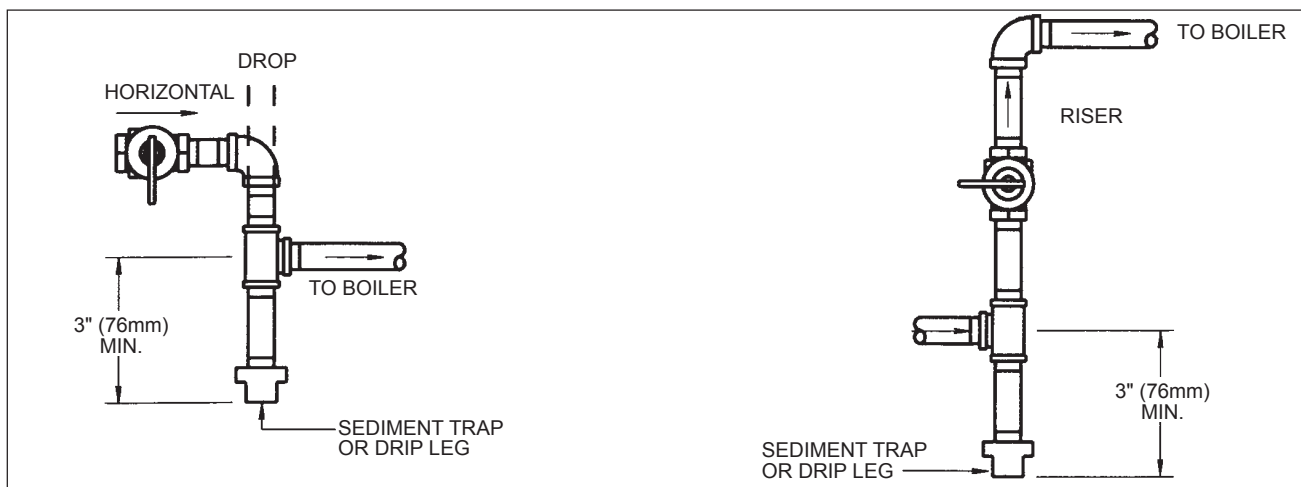

Figure 8. Gas Supply Piping.
- A sediment trap (drip leg) must be installed ahead of the gas controls (see Figure 8). Fit the trap with a threaded cap which can be removed for cleaning.